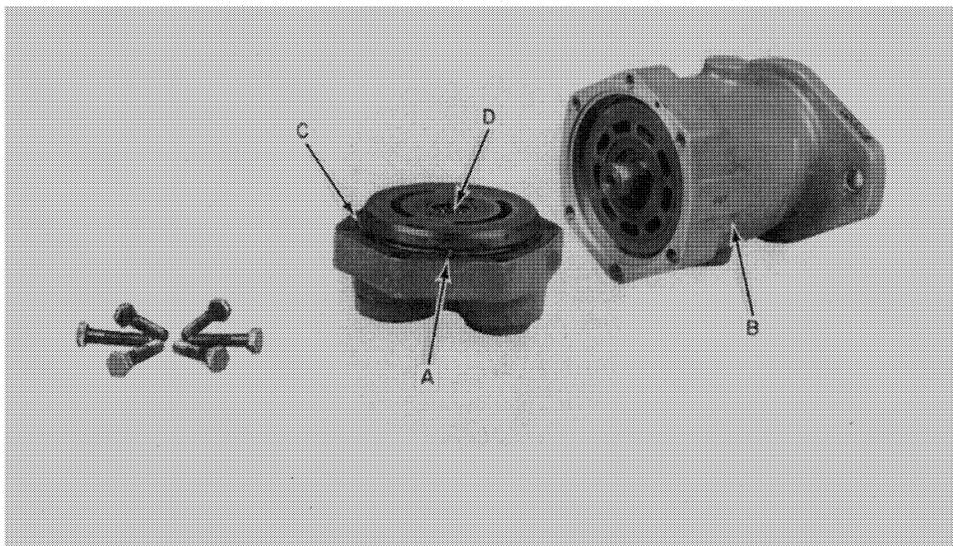
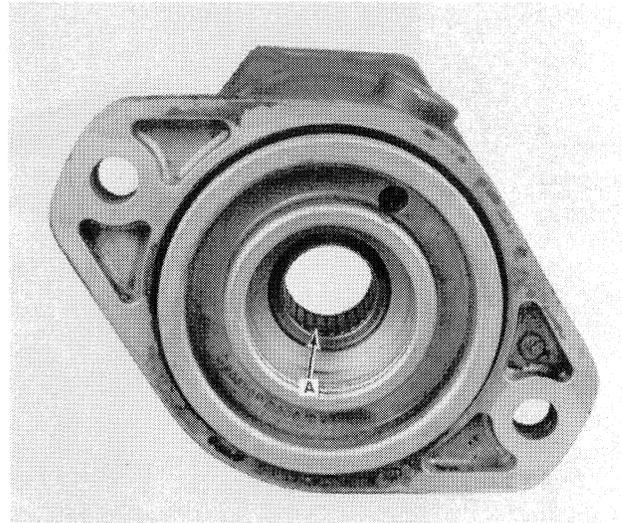

FIGURE 8
FIGURE 13
4. Remove six cap screws to remove back plate, A, Figure 8, from housing assembly, B. Use a soft hammer to loosen back plate and then pull back plate straight out.
5. Remove O-ring, C, Figure 8.
12. Remove the needle bearing, D, Figure 8, and A, Figure 13, if they show wear or excessive play.
9. Install back plate, A, Figure 8. Align roll pin in hole in housing. Install cap screws and tighten to 15 to 18 ft. lbs. (20 to 24 N·m) torque.